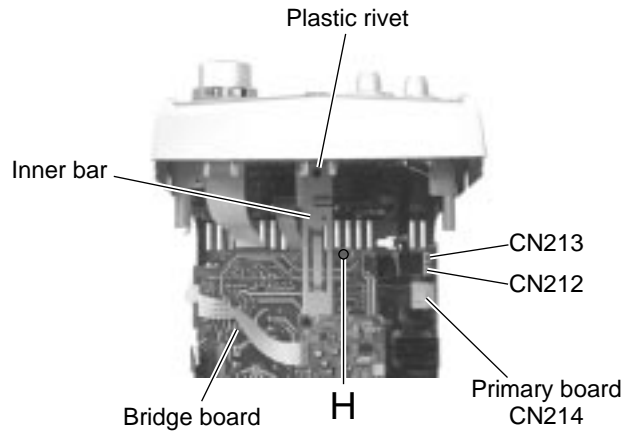

Fig.22
■ Removing the bridge board / regulator board / heat sink (See Fig.22 ~ 27)